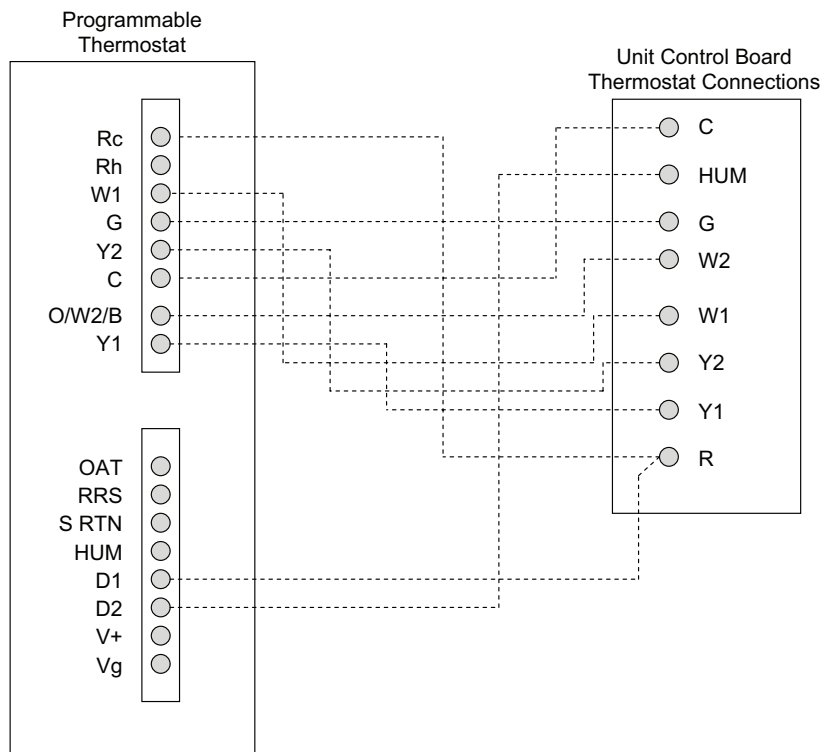

Fig. 40 — 50FE-*16 Unit with Humidi-MiZer Adaptive Dehumidification System with Edge® Pro Thermidistat Device
5. The Thermidistat has dry contacts at terminals D1 and D2 for dehumidification operation (see Fig. 40). Connect D1 to the R terminal on the UCB. Connect D2 to the HUM terminal on the UCB. Refer to the installation instructions included with the Carrier Edge® Pro Thermidistat device for more information.